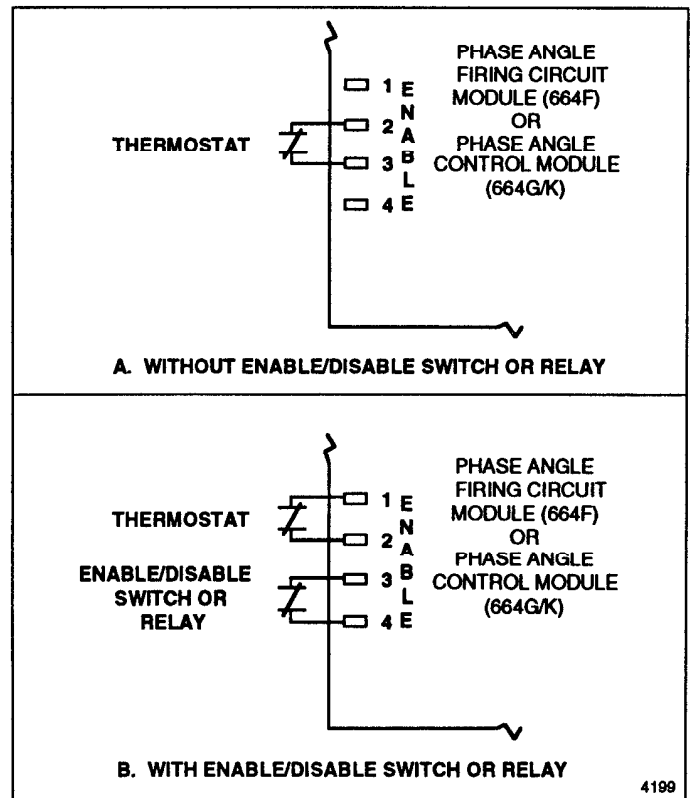

Figure 2–7. Connecting enable/disable switch to the phase angle firing circuit module or the phase angle control module.
- A. If a 0–5 VDC control signal is being used (see figure 2–15):
- (1) Connect the positive control-signal wire to the **0–5 V** terminal of the input module.
- (2) Connect the negative control-signal wire to one of the **COM** terminals of the input module.
- B. If a 0–20 mA control signal is being used (see figure 2–15):
- (1) Connect the positive control-signal wire to the **0–20 MA** terminal of the input module.
To install and connect an enable/disable switch (see figure 2–7):
1. Move the thermostat connection on the phase angle firing circuit module or phase angle control module from the **ENABLE 3** terminal (as it is in figure 2–7A) to the **ENABLE 1** terminal.
4. Connect the lugs to the **ENABLE 3** and **4** terminals on the firing circuit module as shown in figure 2–7B. There is no wiring polarity for these connections.